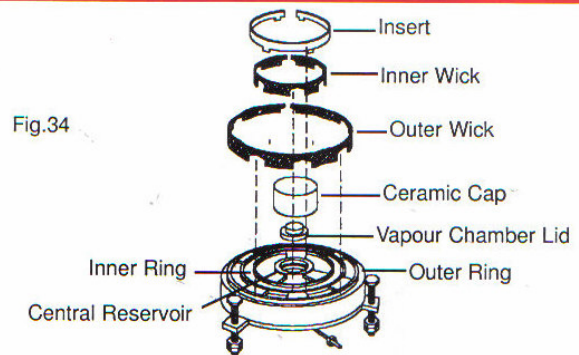

Fig.34
2. Replace the vapour chamber lid and ceramic cap as per fig.34. When replacing the vapour chamber lid, grind into position to ensure it sits down properly.
7. Remove the wicks and inner ring insert. Remove any soot or dirt from the burner rings. See fig.34.